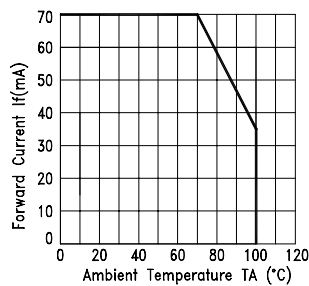

Fig.3 Forward Current v.s Ambient Temperature
2. Derating linear as shown in Fig. 3